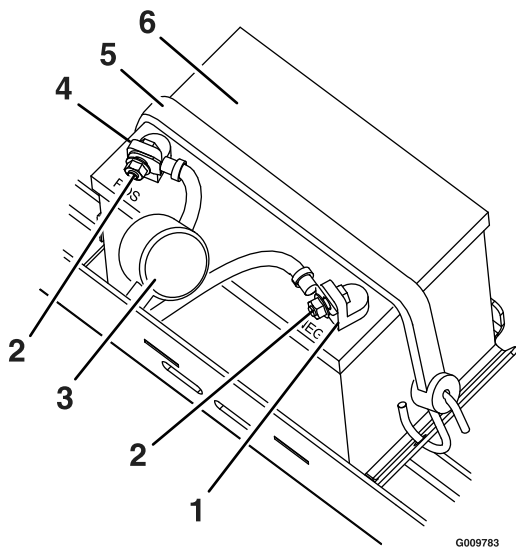

Figure 29
4. Disconnect the negative (black) ground cable from the battery post (Figure 29). Retain all fasteners.
6. Remove the battery strap (Figure 29) and lift the battery from the battery tray.
- Position the battery in the tray with the terminal posts toward the operating position (Figure 29).
- Secure the battery with the strap (Figure 29).